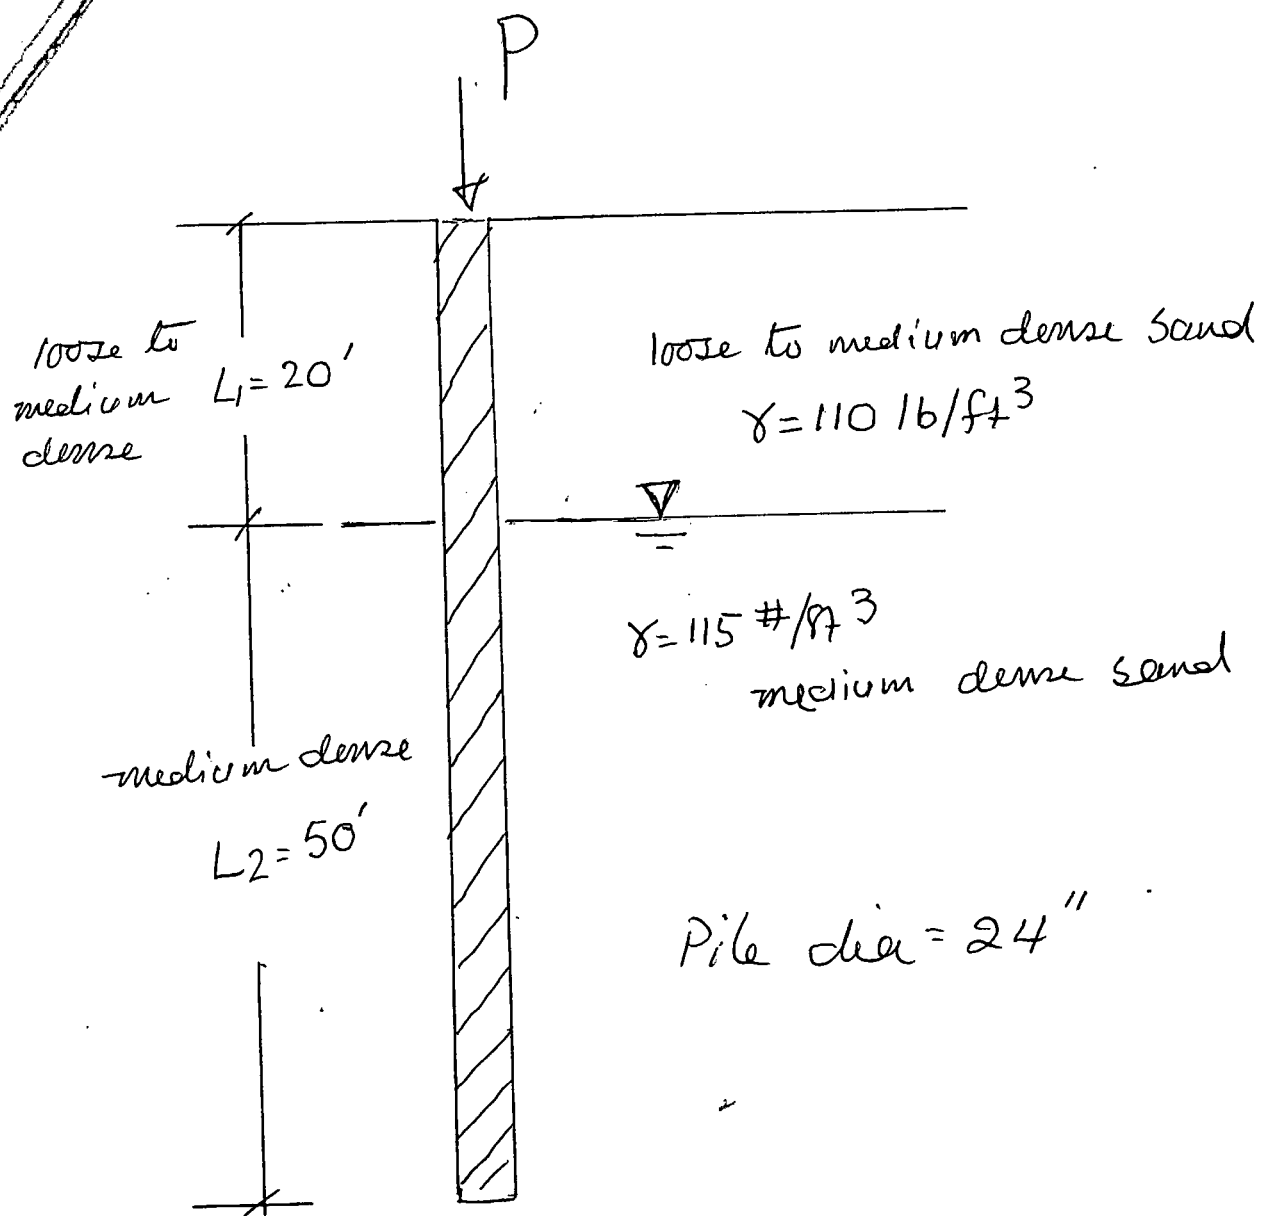

Fig. 5
3. (a) Calculate axial load carrying capacity ' p ' of a drilled shaft pile shown in Fig. 5 using Reese and O'Neill (1988) procedure. Use factor of safety = 3.0. (15)